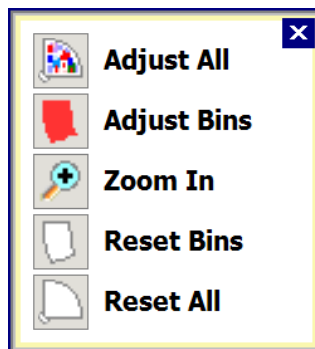

Figure 6.10 – Sensitivity Popup
2. Click within the sensor view. This will bring up the Sensitivity popup (see Figure 6.10)